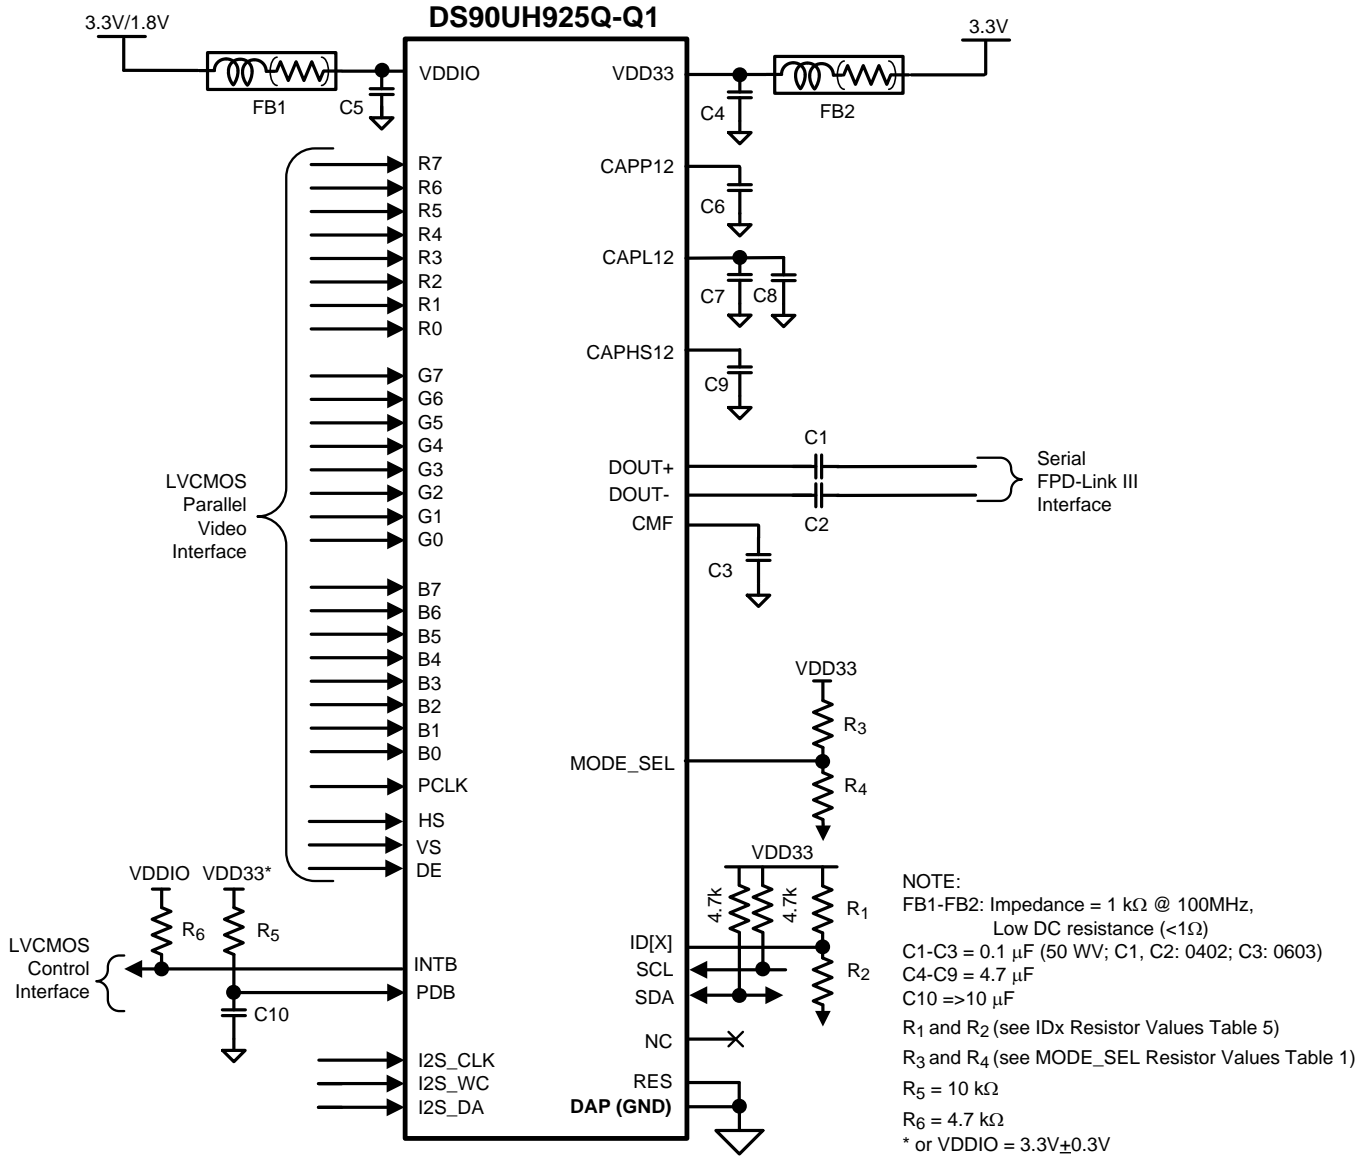

Figure 23. Typical Connection Diagram
Figure 23 shows a typical application of the DS90UH925Q-Q1 serializer for an 85 MHz 24-bit Color Display Application. The CML outputs must have an external 0.1 μF AC coupling capacitor on the high speed serial lines. The serializer has an internal termination. Bypass capacitors are placed near the power supply pins. At a minimum, six (6) 4.7μF capacitors (and two (2) additional 1μF capacitors should be used for local device bypassing. Ferrite beads are placed on the two (2) VDDs (V_{DD33} and V_{DDIO}) for effective noise suppression. The interface to the graphics source is with 3.3V LVCMOS levels, thus the V_{DDIO} pin is connected to the 3.3 V rail. An RC delay is placed on the PDB signal to delay the enabling of the device until power is stable.